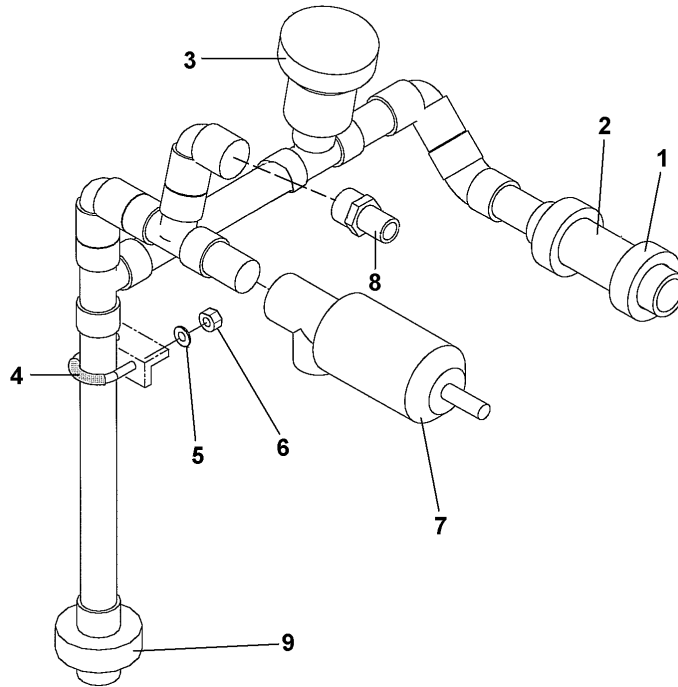

Figure 12. Tank Vent Piping.
1. Loosen unions (1) and (9). See Figure 12.
1. Refer to Figure 12 for this piping.
5. Install the U-bolt (4) and fasten the lock nuts (6) washers (5) to the U-bolt (4).
8. Install the check valve (2) if necessary. Ensure that the arrow on the body of the check valve is in line with the direction of the flow.